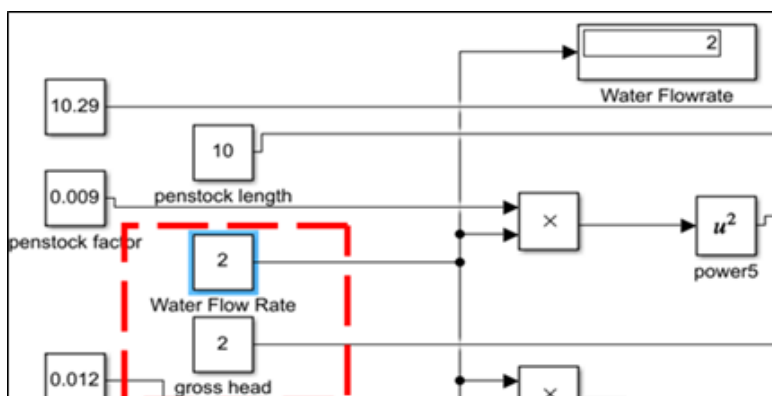

Figure 5.2 : Water flow rate and gross head setting [3]
3. Double click the box of water flow rate 1.and gross head to set the values $2 \text{ m}^3/\text{s}$ and 2m as shown in Figure 5.2 below.